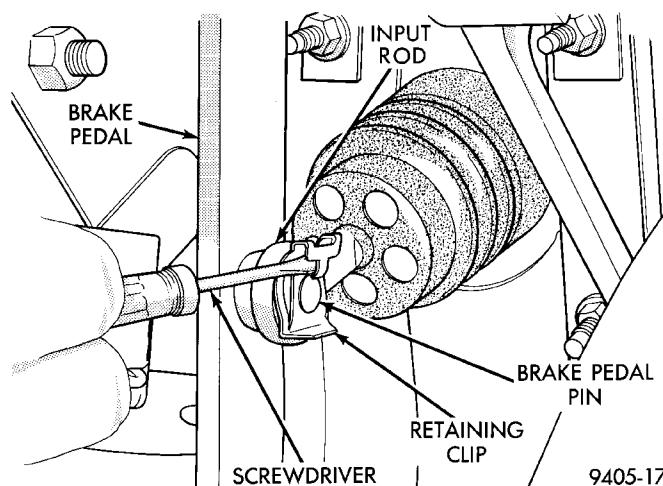

Fig. 118 Input Rod Retaining Pin
(9) Locate the power brake vacuum booster input rod to brake pedal attachment under instrument panel. Position a small screwdriver (Fig. 118) under the center tang of the retaining clip.
(10) Rotate screwdriver (Fig. 118) enough to allow retaining clip tang to pass over the end of the brake pedal pin.